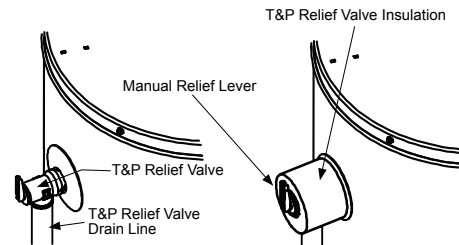

FIGURE 21.
1. Locate the temperature and pressure relief valve on the water heater (also known as a T&P relief valve). See Figure 21.
3. Spread the slit open and fit the insulation over the T&P relief valve. See Figure 21. Apply gentle pressure to the insulation to ensure that it is fully seated on the T&P Relief Valve. Once seated, secure the insulation with duct tape, electrical tape, or equivalent. **IMPORTANT:** The insulation and tape must not block the discharge opening or hinder access to the manual relief lever (Figure 21). Ensure a discharge pipe is installed into the T&P valve discharge opening per the instructions in this manual.